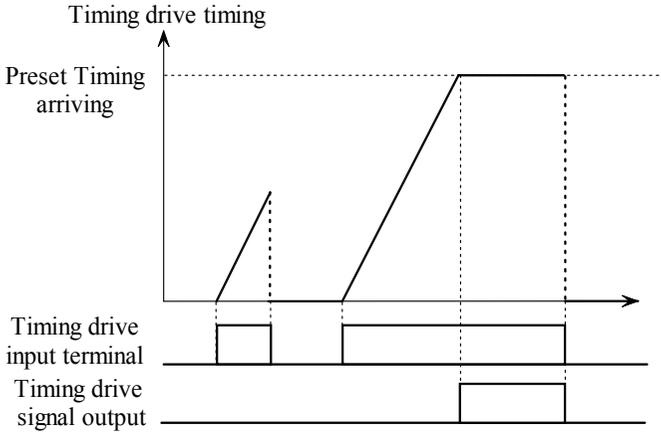

Fig. 5-3-7 Timing driving input
- ◆ If the timing arrives at preset setting of P3.33, inverter stops timing. As shown in Figure.5-3-7: